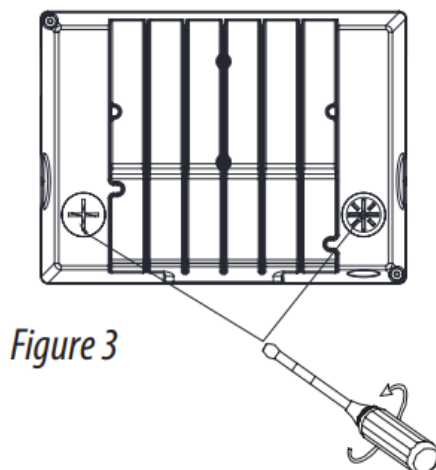
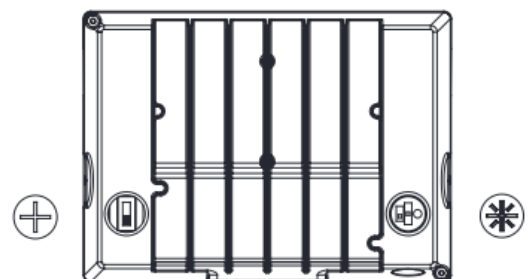

Figure 3
Figure 4
1. Open the metal plug and plastic plug counterclockwise with a screwdriver (Figure 3), then slide the switch up and down to adjust the power controller, CCT selector or photocell controller for your application. (Figure 4) adjust the power controller, CCT selector or photocell controller for your application. (Figure 4)